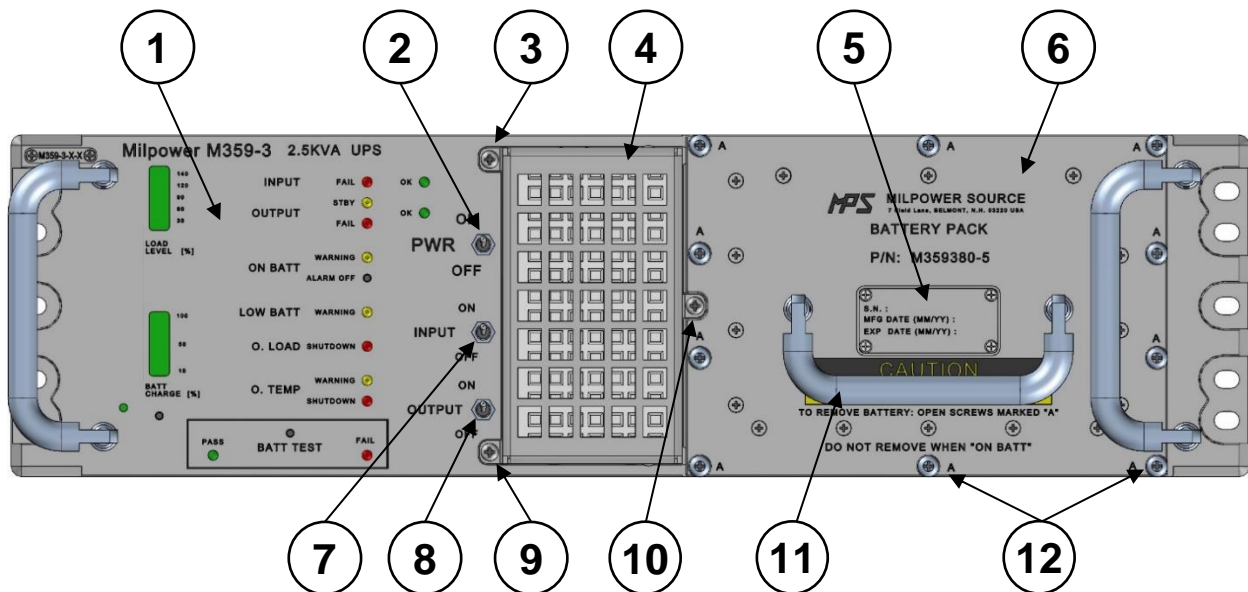

Figure 3: Front Panel, Main Components
3.1. Front Panel: Main Components (Figure 3)